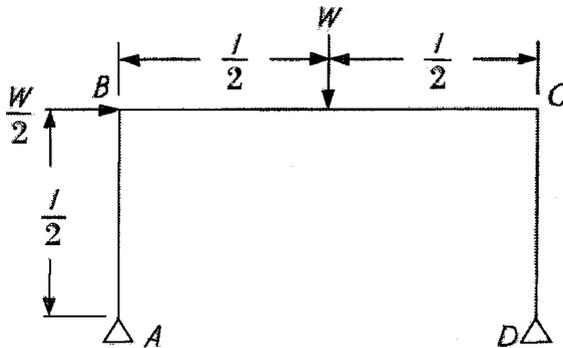

Fig. 3.1.
- (c) A two - hinged rectangular portal frame as shown in fig. 3.1 carrying a point load W at mid span and a horizontal sway load $0.5 W$. Find the value of W at which the frame will collapse. All the members are of same section.